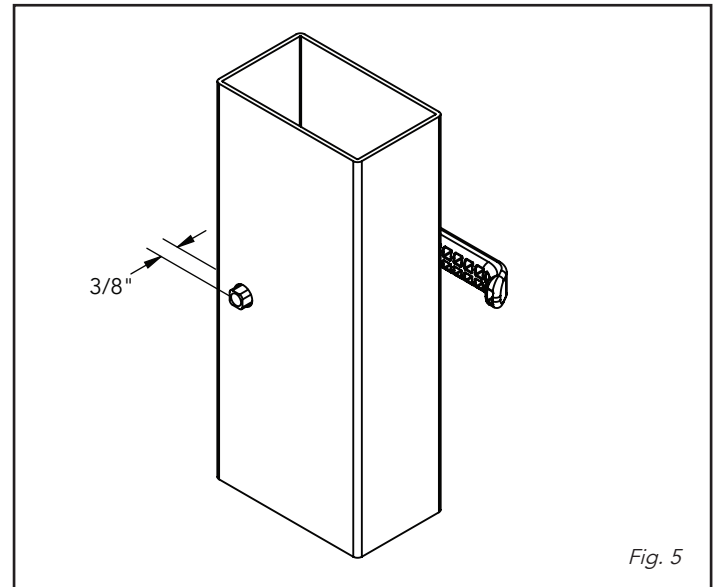

Fig. 5
2. From the back side of the gate, slide the back lever assembly through the 5/8" hole in the gate (Fig. 5). Mount using the supplied mounting screws.